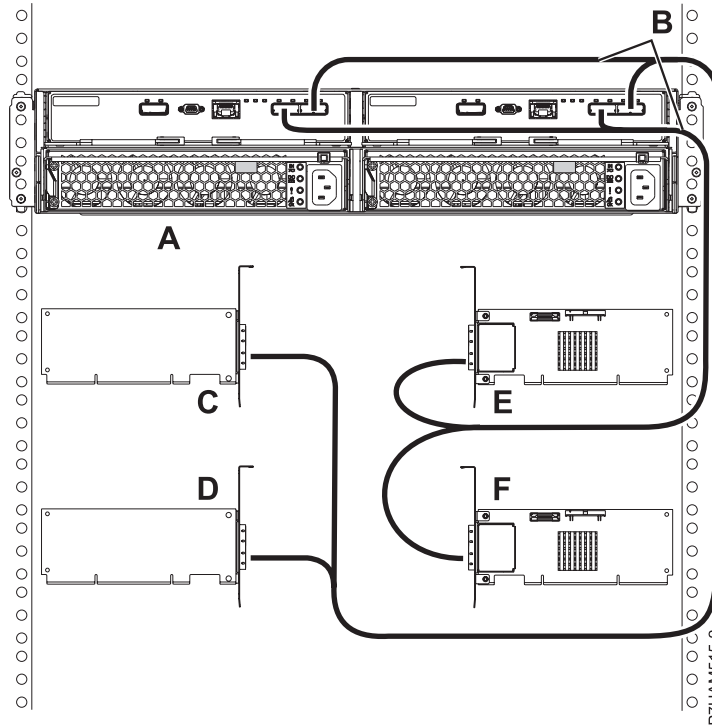

Figure 33. Mode 4 connection of one 58/87 disk drive enclosure by using X cables to four independent SAS adapters
- n. Perform the mode 4 connection of one 58/87 disk drive enclosure (A) by using X cables (B) to four independent SAS adapters as shown in Figure 33 on page 30.